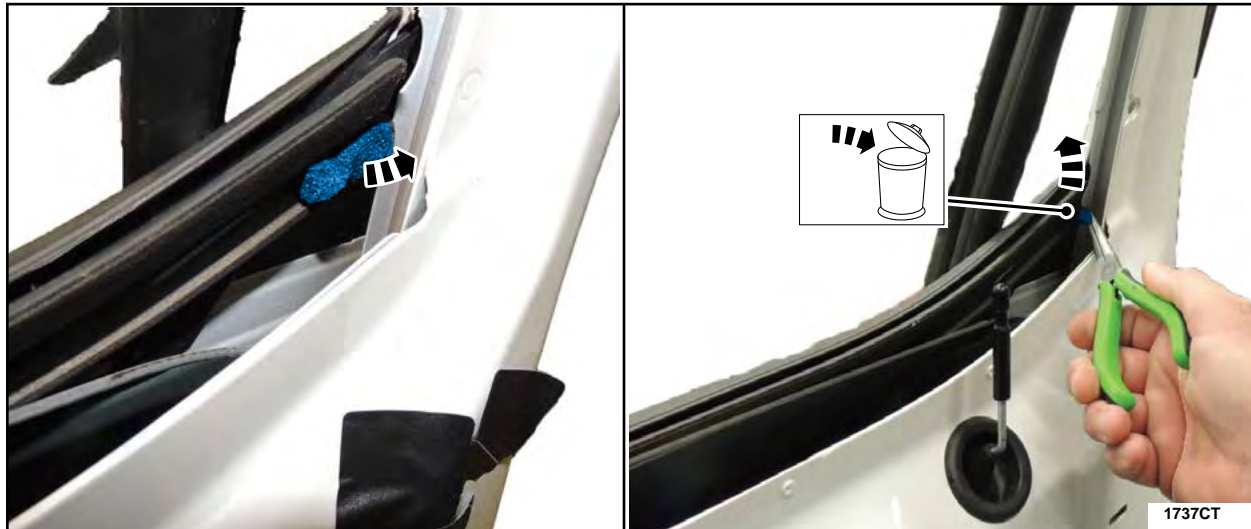

FIGURE 63
5. If present, remove and discard the foam on the door outer belt moulding at the location shown in Figure 63.